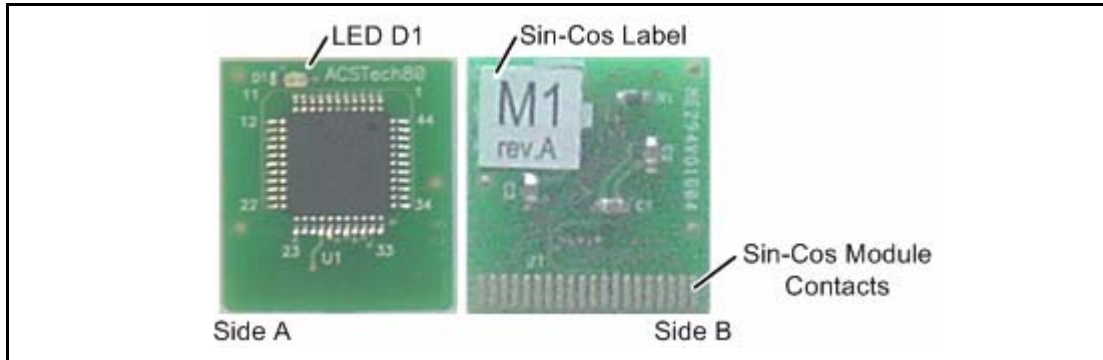

Figure 66 Sin-Cos Module Sides
Refer to Figure 66 for an illustration of **Side A** and **Side B** of the Sin-Cos encoder module.
Note the location of LED D1, see Figure 66, to avoid damage with the needle-nose pliers.
1. The label on side B of the Sin-Cos module, see Figure 66, indicates the number of available multipliers as follows: